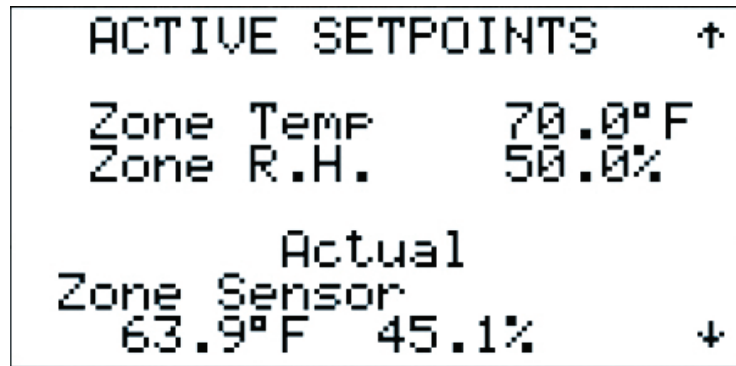

Figure 4
2.2 Zone Setpoints (Figure 4)
Pressing the **Prg** key from the Home Screen displays the ACTIVE ZONE SETPOINTS (Figure 4). This menu displays the current temperature and humidity setpoints specific to the unit. The setpoints displayed are from one of the following options; the standard setpoints adjustable in the unit, the setpoints from a Lead Unit, or the setpoints from a BMS network. If the unit is a DriCure unit, the setpoints may also come from the DriCure schedule.